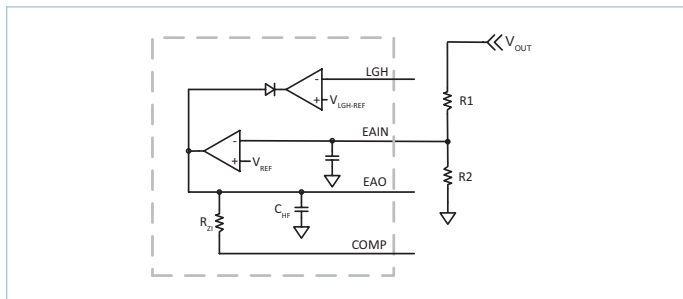

Figure 51 — External resistor divider network
The PI354x-00 family of Buck Regulators utilizes an internal reference (V_{REF}). The output voltage setting is accomplished using external resistors as shown in Figure 51. Select R2 to be at or around 1k Ω for best noise immunity. Use Equations (1) and (2) to determine the proper value based on the desired output voltage.